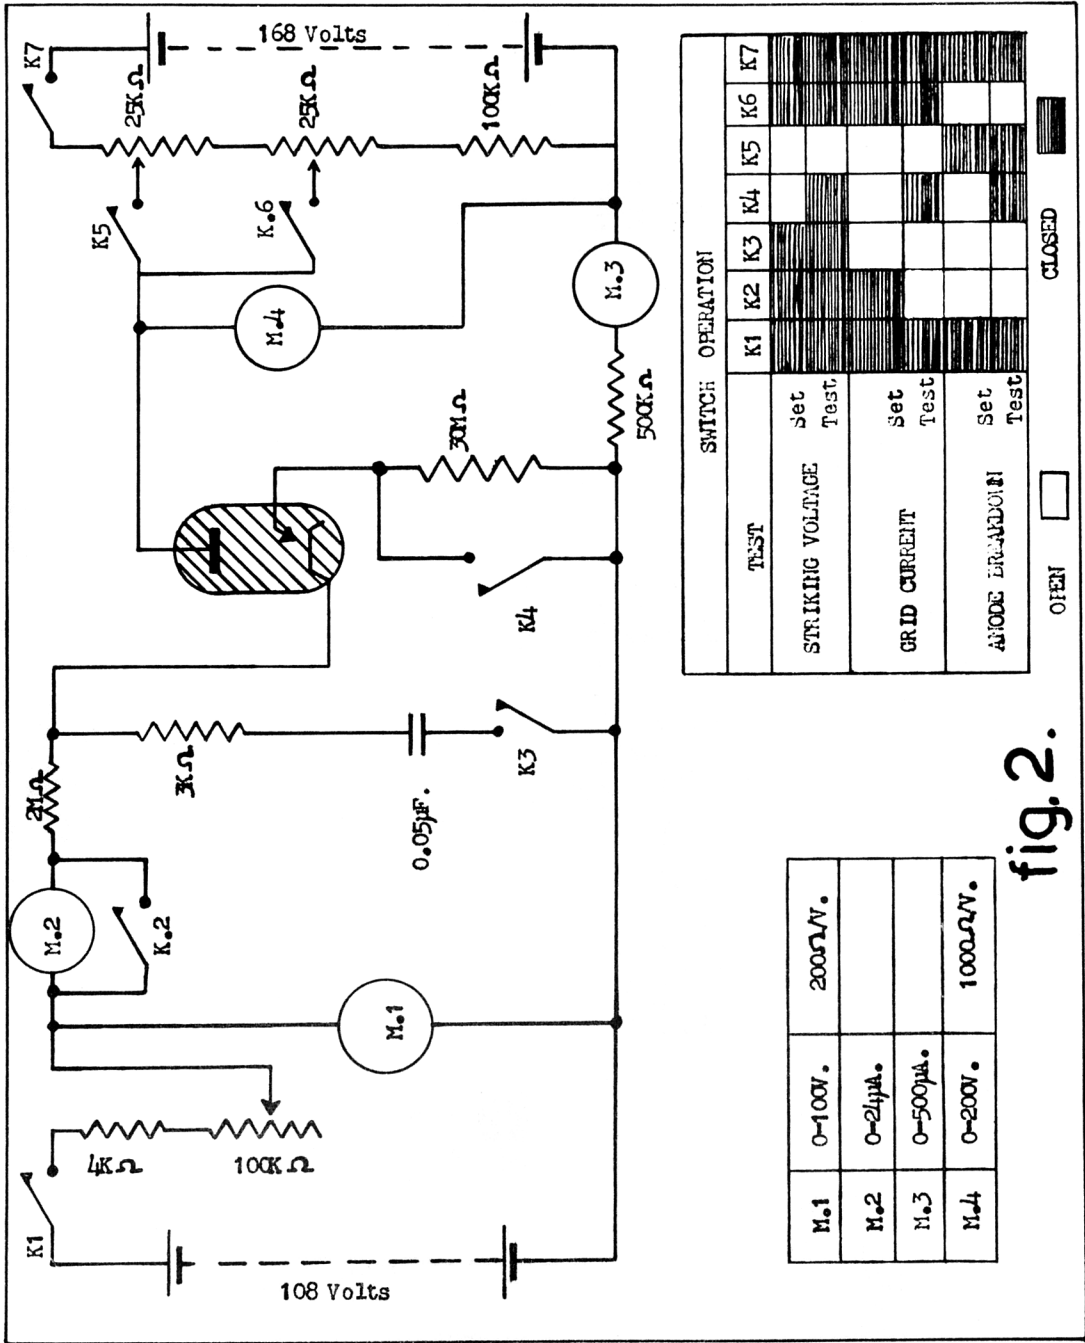

fig.2.
2. Test to be carried out with a 2M Ω resistor in the grid lead, and in a circuit similar to figure 2 in Specification AD/CV77; valve to be enclosed in light proof box.